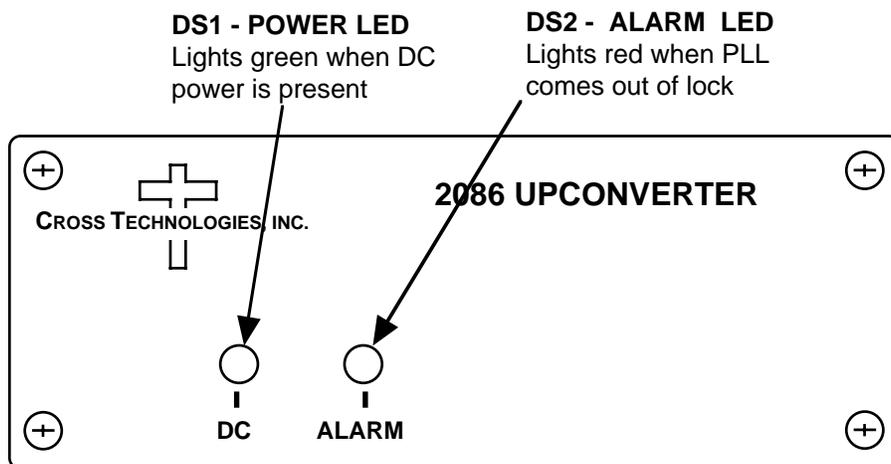

FIGURE 2.1 2086 Front Panel Indicators
2.2 Indicators - Figure 2.1 shows front panel controls and indicators.
- 2.) Be sure DS1 (green, DC Power) is on and DS2 (red, PLL Alarm) is off (Figure 2.1).